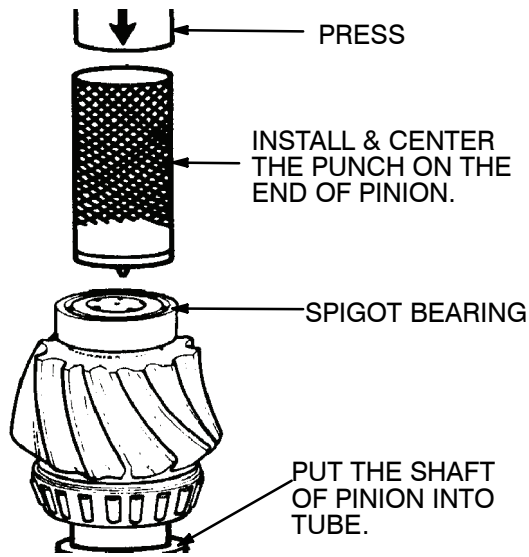

Figure 114.
- Put the drive pinion and the tube of the peen tool in a press, spigot bearing toward the top. Figure 114.
- Put the punch of the peen tool over the end of the pinion and spigot bearing. Apply the required amount of pressure on the punch. Figure 114.